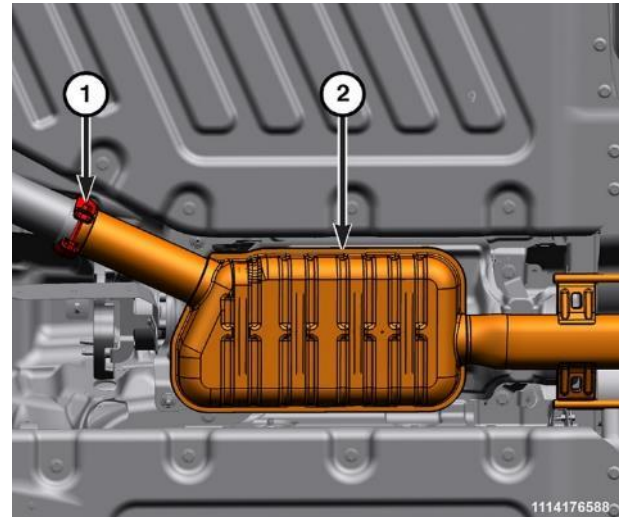

Figure 36 – Exhaust Resonator/Muffler
15. Loosen the exhaust resonator/muffler clamp nut (Figure 36).
16. With the help of an assistant, remove the exhaust resonator/muffler assembly (Figure 36).